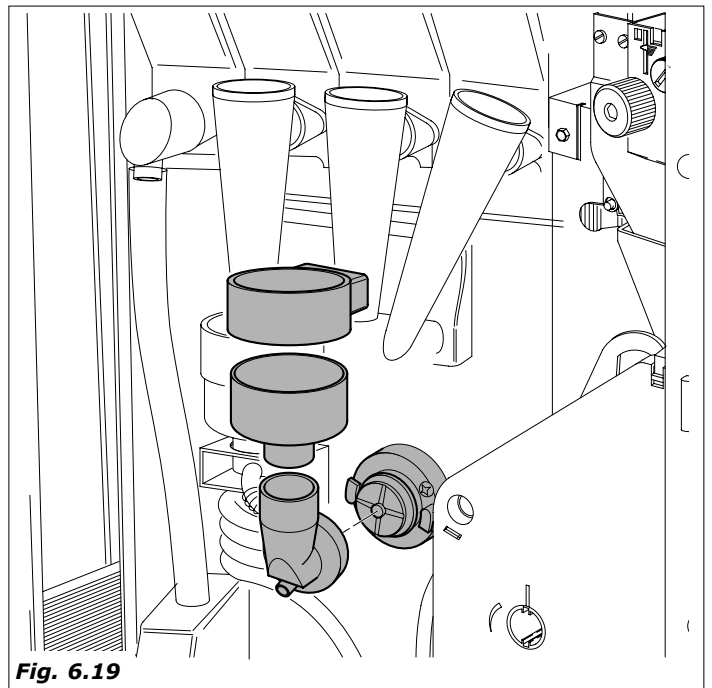

Fig. 6.19
- remove all the powder chutes, water funnels, mixing bowls and whippers and silicone tubes and dip these parts also in the prepared solution (Fig. 6.19)